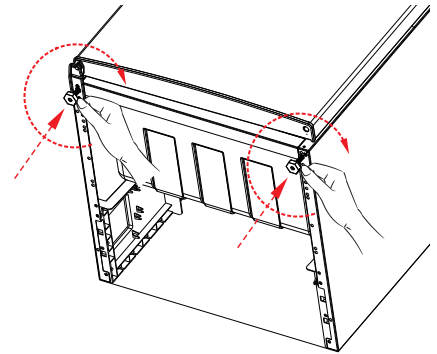

Fig. 19
- ▶ Replace the appliance feet and screw the appliance feet clockwise slightly (Fig. 19).